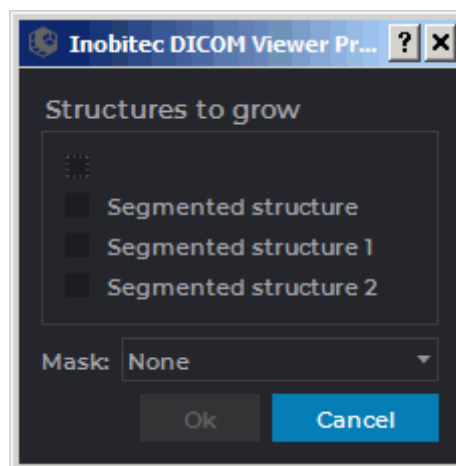

Figure 6.27: Dialog box for setting segmented structures regions growing
1. Click the **Segmented structures regions growing**  button. The dialog box shown in Fig. 6.27 will pop up.